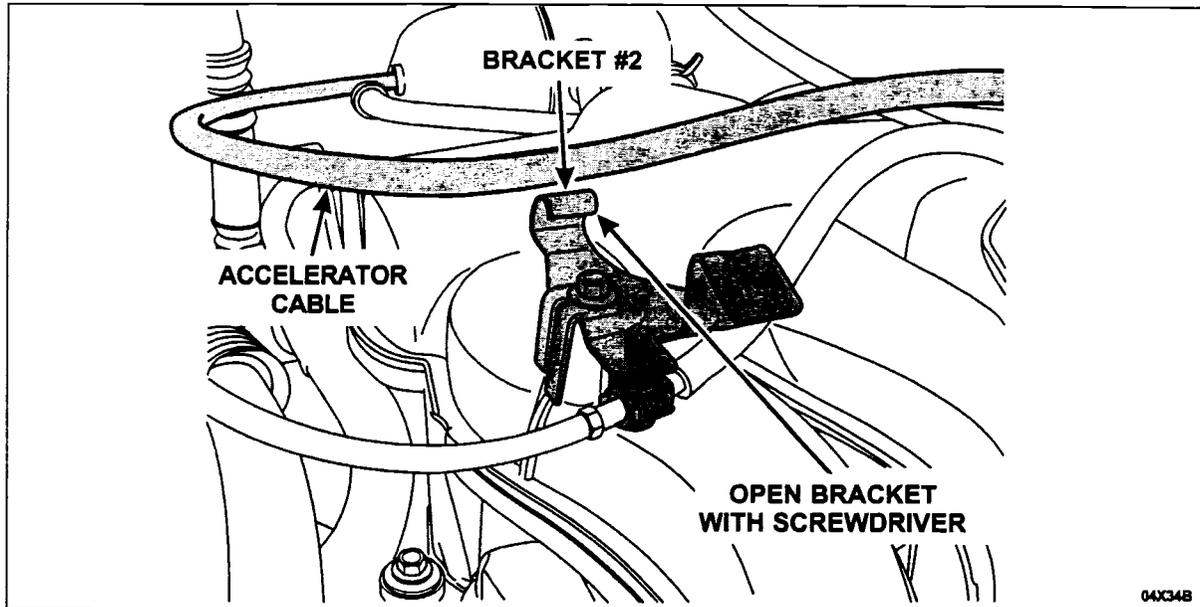

**FIGURE 1**
3. Disconnect the accelerator cable as follows: See Figure 1.